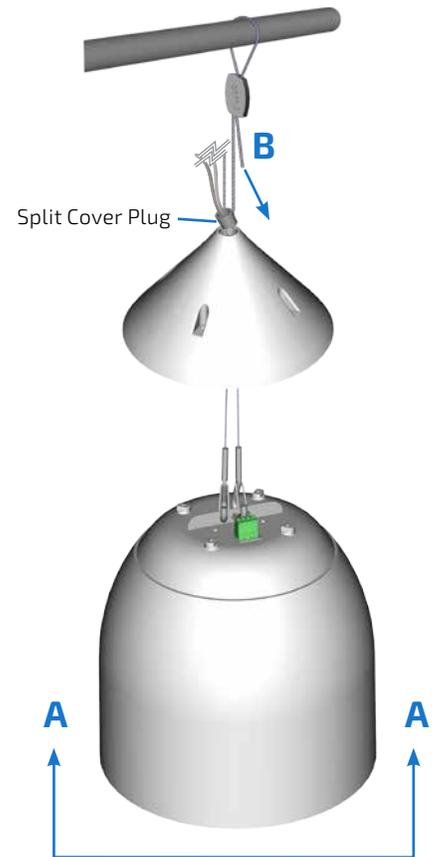

Figure 6. Adjust height of the loudspeaker
5. Pull the end of the safety cable to take up any slack. See **Figure 6** for further height adjustments.
Adjust the loudspeaker height as necessary (**Figure 6**).